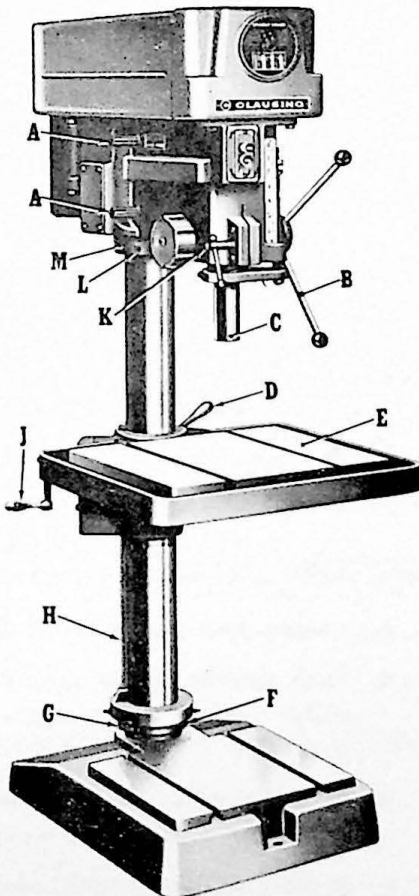

Figure 1
1. Loosen table lock (D, fig. 1).
2. With lift crank (J), raise the table (E) to bottom of spindle (C). (Place block of wood between spindle and table.)
3. Lock table *securely* with handle (D).
4. Loosen two head lock nuts (A) and quill lock (K).
5. Lift head by turning feed handle (B) counter-clockwise. While holding handle, tighten head lock nuts (A).
6. Slide safety collar (M) up to bottom of head. Tighten screws (L) in collar.
7. Lock table with handle (D, fig. 1).
8. Loosen two screws (G) in rack collar (F).
9. Turn crank (J), raising rack (H) to bottom of collar (M).
10. Securely tighten two screws (G) in rack collar.